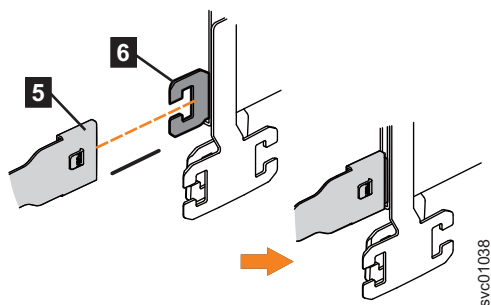

Figure 47. Attach the support rail connector of the upper CMA to the right support rail
4. Attach the support rail connector on the upper CMA assembly (**5**) to the connector base on the right support rail (**6**), as shown in Figure 47.